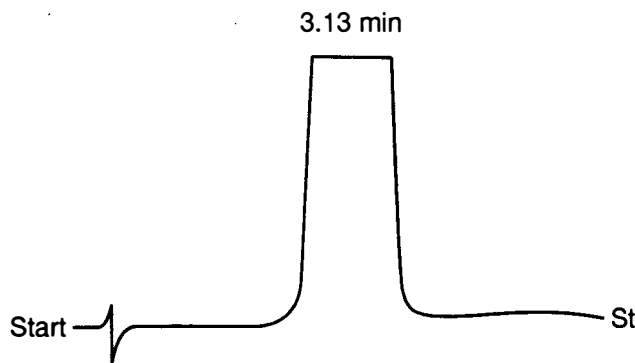

Fig. 4.3. Glucose test sample at wrong attenuation setting.
3. If the peak has a decidedly square top, increase the attenuation number on the integrator by one or two factors and inject sample again. (See Figure 4.3.) Repeat adjustments until peak is approximately 2/3 height of the recorder paper.